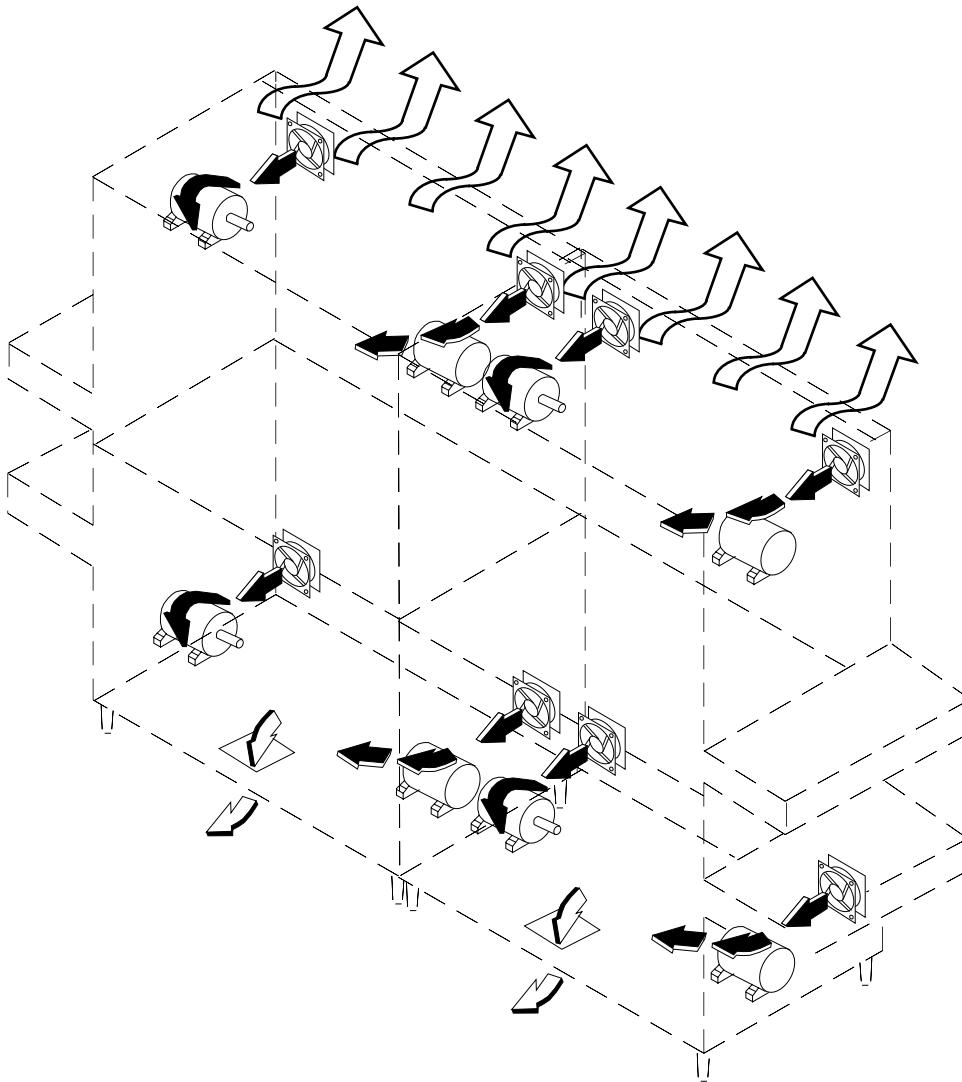

Figure 1-7. Cooling Fans
D. Cooling Fans -- See Figure 1-7